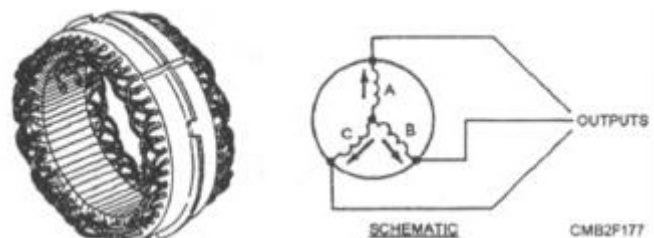

Figure 2-24.—Stator assembly.
**STATOR ASSEMBLY** (fig. 2-24).—The stator produces the electrical output of the alternator. The stator, which is part of the alternator frame when assembled, consists of three groups of windings or coils which produce three separate ac currents. This is known as three-phase output. One end of the windings is connected to the stator assembly and the other is connected to a rectifier assembly. The windings are